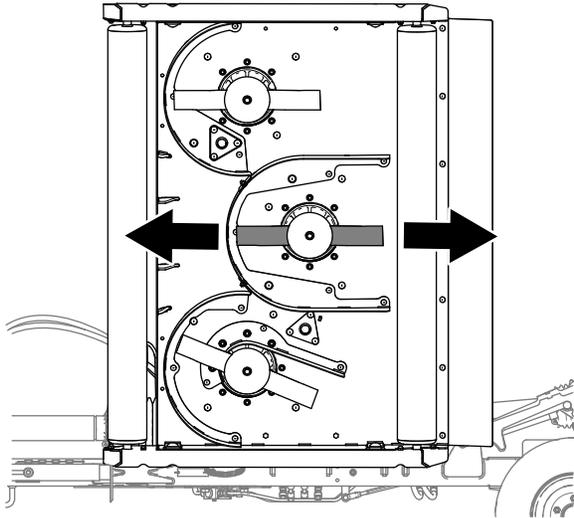

Figure 78
1. For each mower deck that you are adjusting mower pitch, align the center mower blade shown in Figure 78.